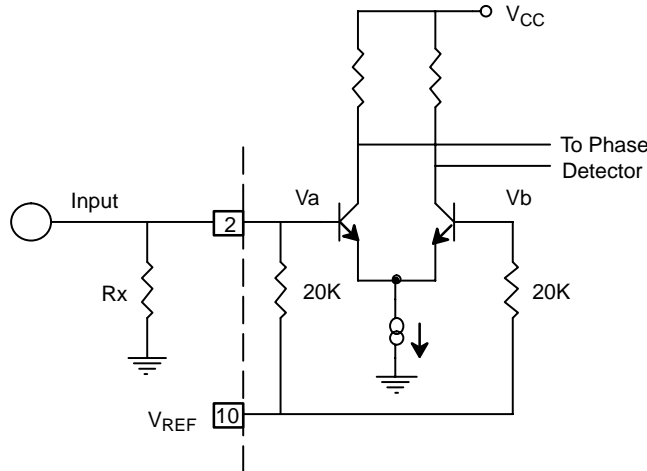

Figure 4. Desensitizing Input Stage
- f) The input to the XR-2211A may sometimes be too sensitive to noise conditions on the input line. *Figure 4* illustrates a method of de-sensitizing the XR-2211A from such noisy line conditions by the use of a resistor, R_x , connected from pin 2 to ground. The value of R_x is chosen by the equation and the desired minimum signal threshold level.